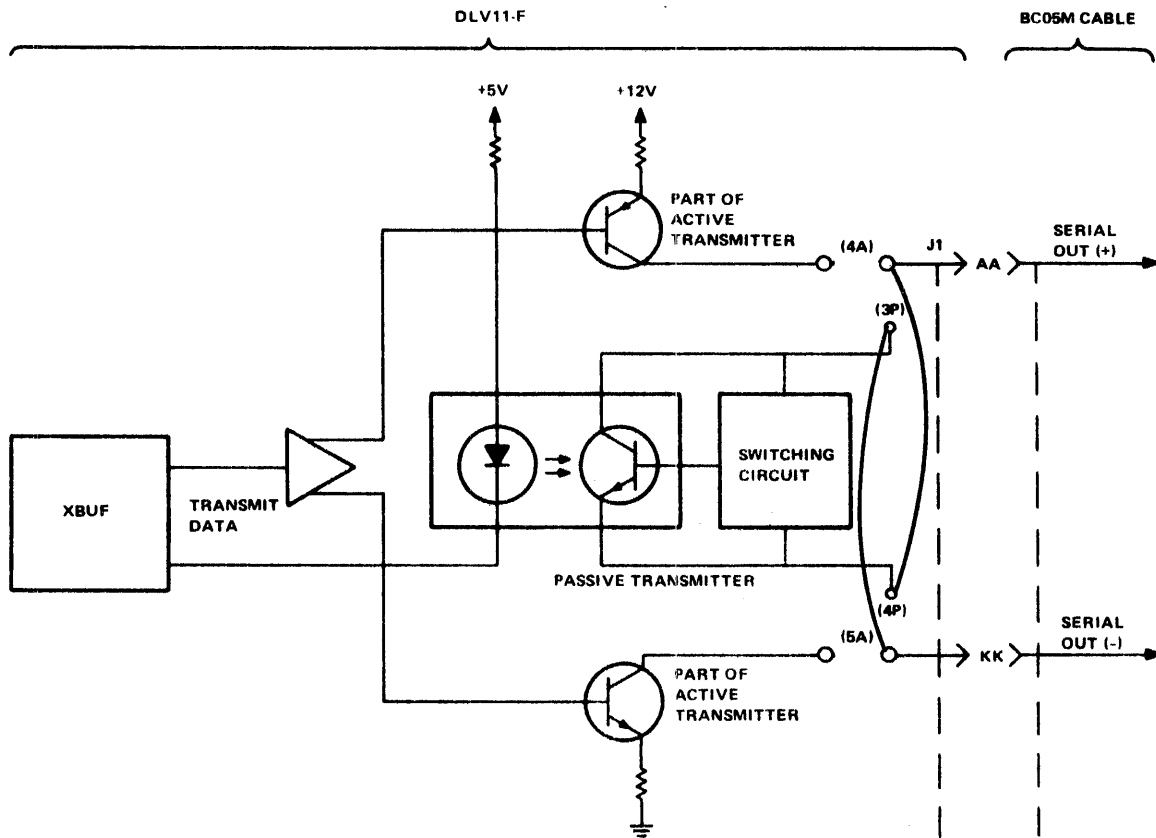

FIGURE 1 -- DLV11-F TRANSMITTER CONFIGURED FOR PASSIVE
- (1) The DLV11 uses bit 15 of the receive CSR to indicate dataset status when in the EIA mode; no such bit or function exists on the DLV11-F. (This bit is sometimes used by customers as an operational status bit for terminals as well as modems.)
- (2) When the 20 mA transmitter on the DLV11 is changed from active to passive, the flow of current is also reversed. However, the current flow is not normally reversed when the DLV11-F transmitter is changed to passive. This means that plug compatibility is not maintained with the normal configuration jumpers. Fortunately, this problem can be easily overcome by crossing the configuration jumpers between the transmitter and the connector on the DLV11-F, as shown in Figure 1. Since the configuration jumpers use wire wrap pins, this change is easy to make. (The number of users that will be affected by this is extremely small.)
- (3) The DLV11-F does not accommodate 200 baud.